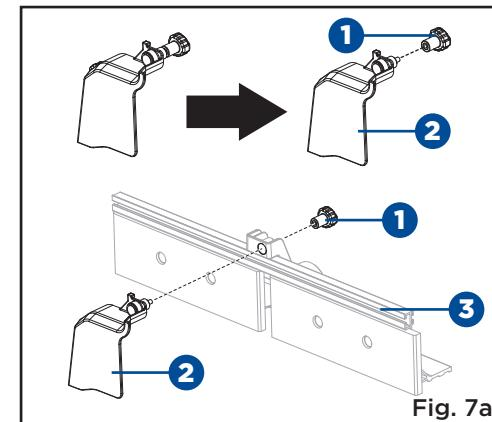

Fig. 7a
ATTACHING THE FENCE ASSEMBLY (Fig. 7a-7b)
- Loosen and remove the bit guard lock knob (1) from the bit gurad (2). (Fig. 7a)